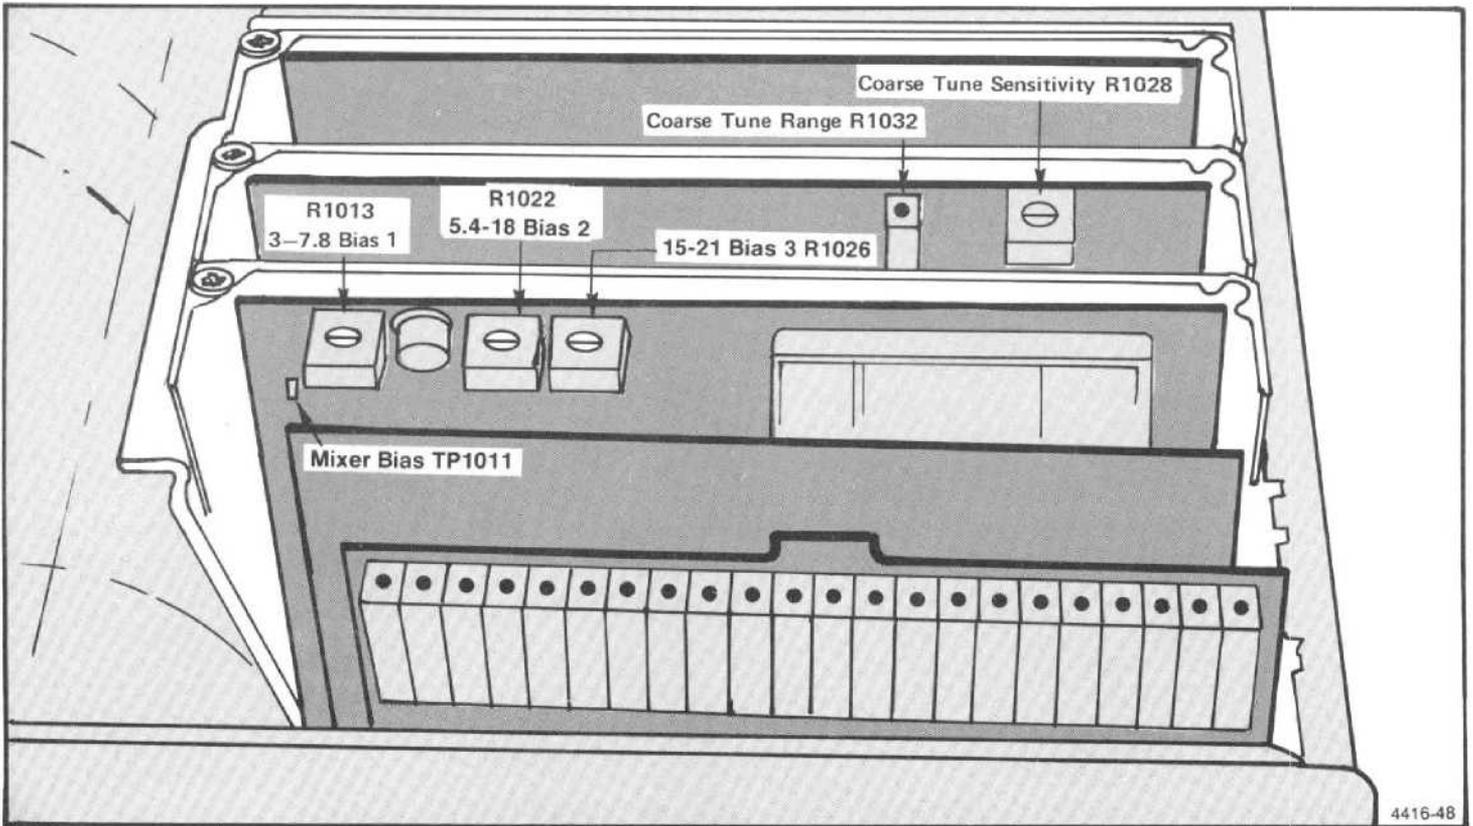

Figure 5-13. Adjustment and test points on the 1st LO Driver board.
b. Connect a DVM between TP1011, on the 1st LO Driver board (Figure 5-13) and ground (crt shield). Adjust R1013 (Figure 5-13) for -1.0 V.